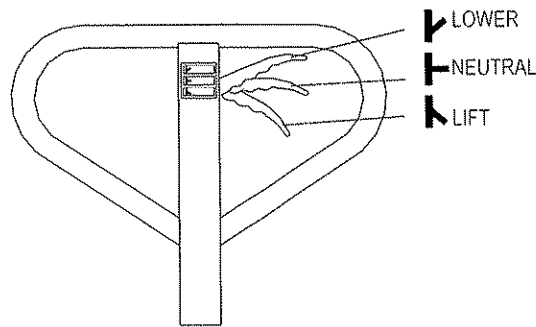

Fig. 3
On the Handle Tube (1) of this pallet truck, you can find the Control Lever (5), which can be regulated in three positions (See Fig. 3):